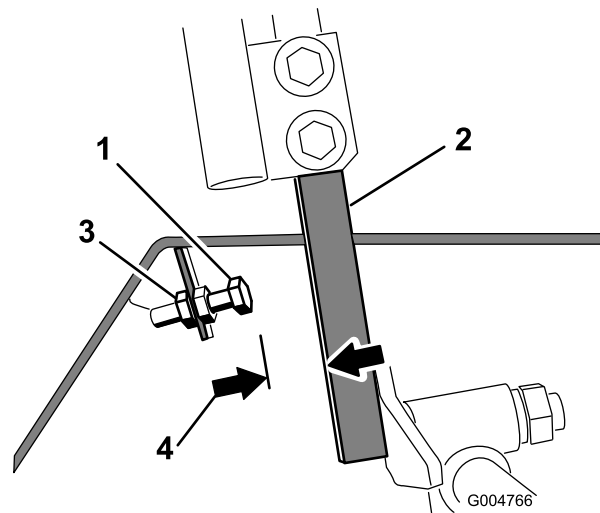

Figure 87
4. Loosen the jam nut on the stop bolt for one of the control levers (Figure 87).